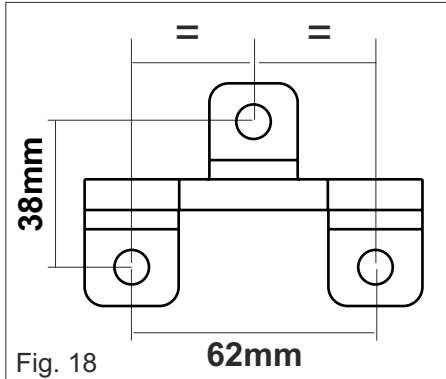
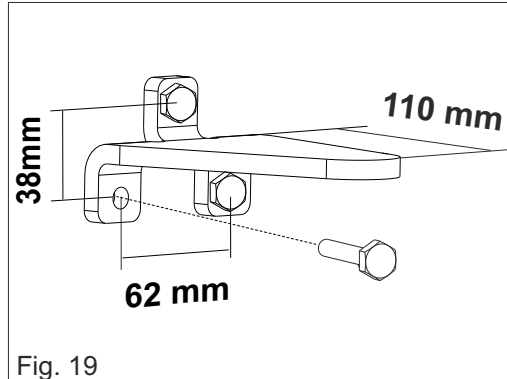

Fig. 18
Fig. 19
- 2) Screw the front fixing bracket onto the gate in correspondence of the holes made respecting the dimensions as per Fig. 18 and Fig. 19